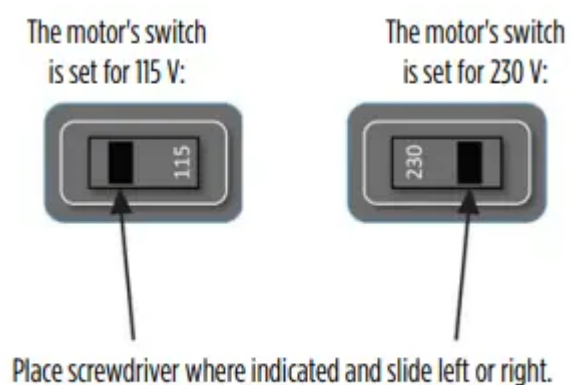

Figure 2 - VOLTAGE SWITCH
3. Slide the voltage switch from 115 V to 230 V, as shown in Figure 2